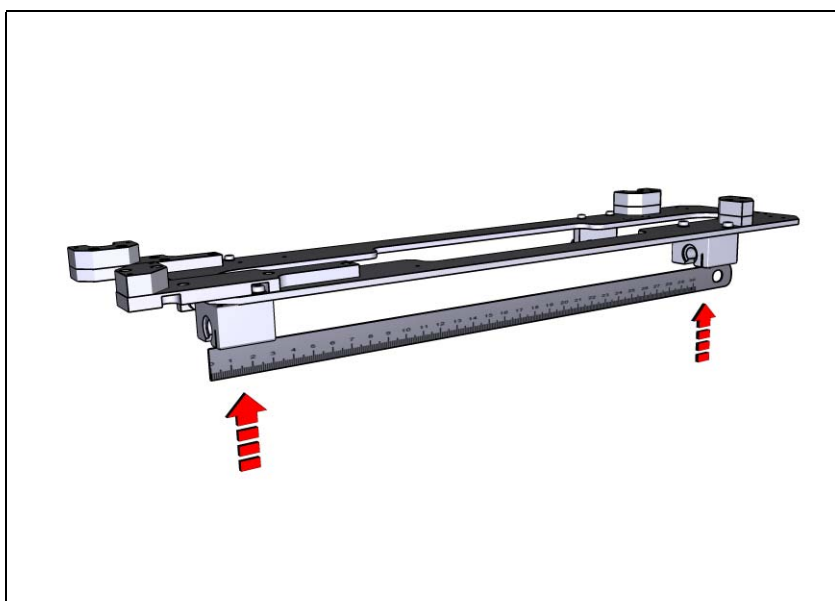

Figure 13-30. Check tray table straightness.
4. To determine if the tray table is curved, hold a steel ruler along the underside of the tray table's two ball bushings (see Figure 13-30).